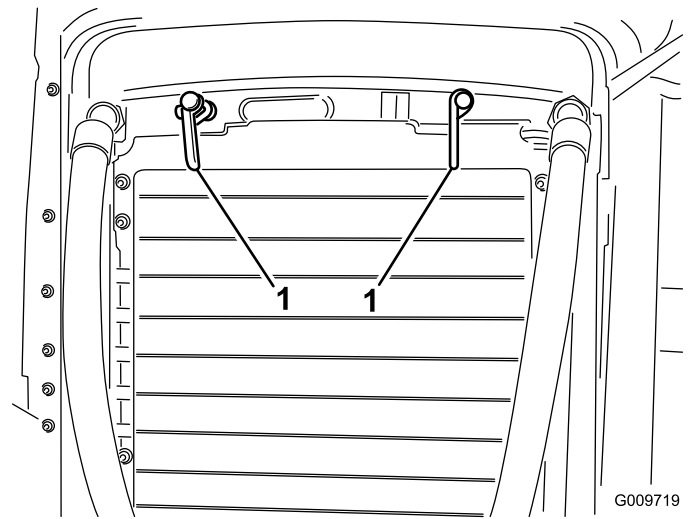

Figure 71
2. Rotate the latches (Figure 71) securing the oil cooler to the frame.